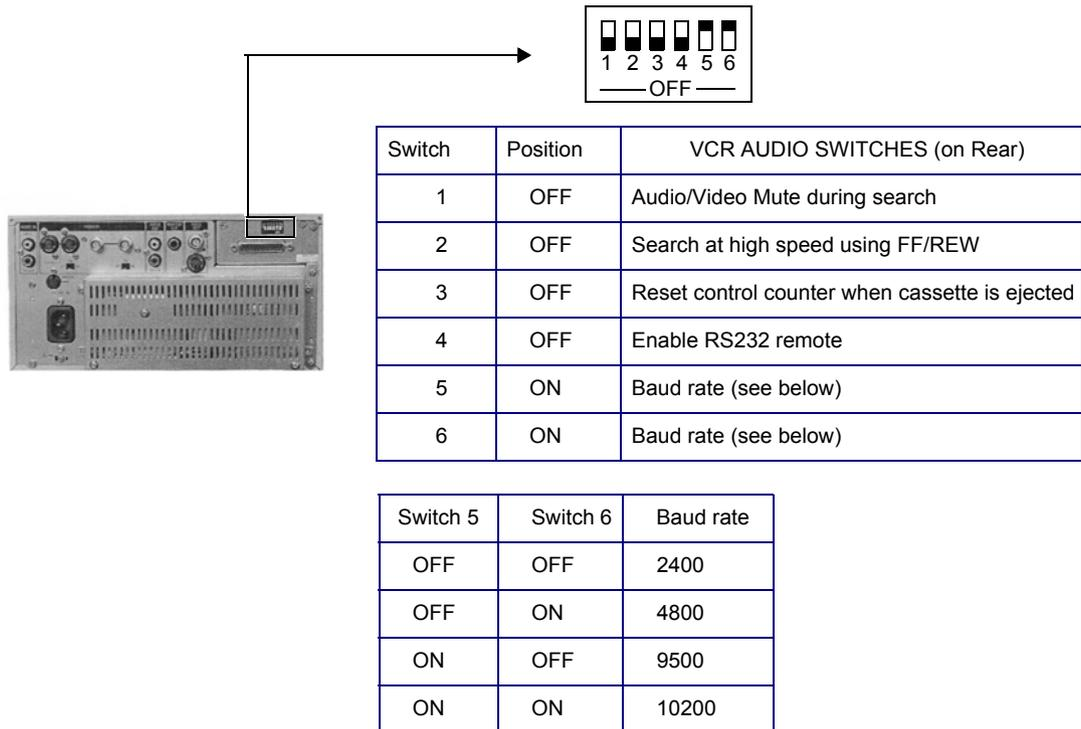

Figure 8-120 Sony VCR - Switches Setting (Rear Panel)
6.) Verify that the switches on the VCR rear panel are as shown in Figure 8-120 below. If necessary, adjust accordingly.